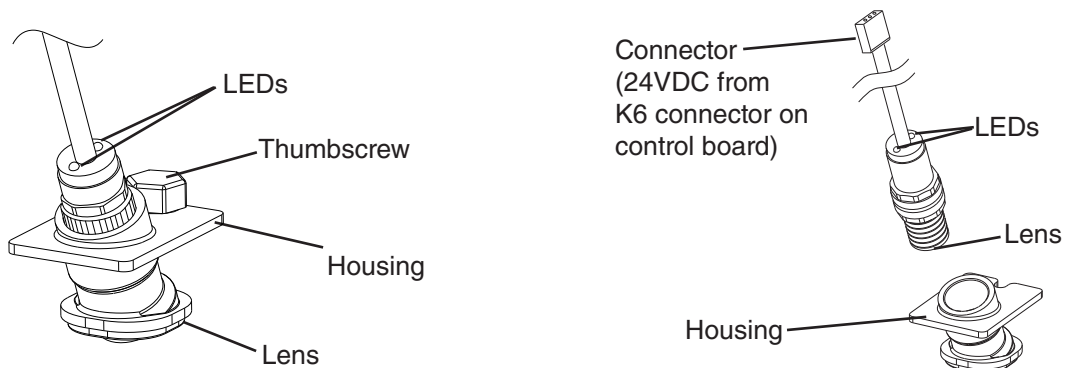

Fig. 4
- 4) Confirm that BC1 is connected to CB K6 connector. Wipe down BC1 lens with a warm, clean, damp cloth. If the bottom of the icemaker is not accessible in your application, remove the thumbscrew securing the BC1 housing, then remove the housing from the base. See Fig. 4.
- 6) Turn on the power supply to start the automatic icemaking process. Check that BC1 green LED is on. The BC1 green LED confirms 24VDC power from CB to BC1 and remains on constantly. **Diagnosis:** If the BC1 green LED is not on, confirm 24VDC at CB K6 #1 (DBU) to CB K6 #3 (BR). If 24VDC is present and the BC1 green LED is off, replace BC1. If not, see step "3a) BC1 (infrared sensor) Power Supply," under "II.C. Control Board Check.
8) CB "GM" and "COMP" LEDs are on. Use an object to cover BC1 lens at the bottom of the icemaker. If the bottom of the icemaker is not accessible in your application, remove the thumbscrew securing BC1 housing, remove the housing from the base, then cover BC1 lens. See Fig. 4. The orange LED on BC1 turns on (flashing or steady). The orange LED flashes when ice is at the outer limit of its range and turns steady as ice nears. After the orange LED turns on (flashing or steady), BC1 shutdown delay timer starts. See "III.B.2a. BC1 (Infrared Sensor) Shutdown Delay (S2 dip switch 1, 2, 3)." Comp (LLV/SLV on MLJ model) should de-energize immediately after the shutdown delay timer terminates. 5 min. later, GM and FM/FMR should de-energize.